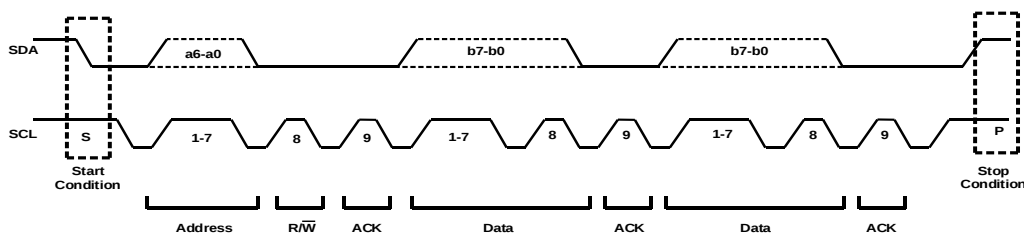

Figure 9: Data Transfer Over the PMBus
The start and stop conditions are signaled by the master device, which signifies the beginning and end of the PMBus transfer. A start command (S) is defined as the SDA signal transitioning from high to low while the SCL is high. A stop command (P) is defined as the SDA signal transitioning from low to high while the SCL is high (see Figure 9).